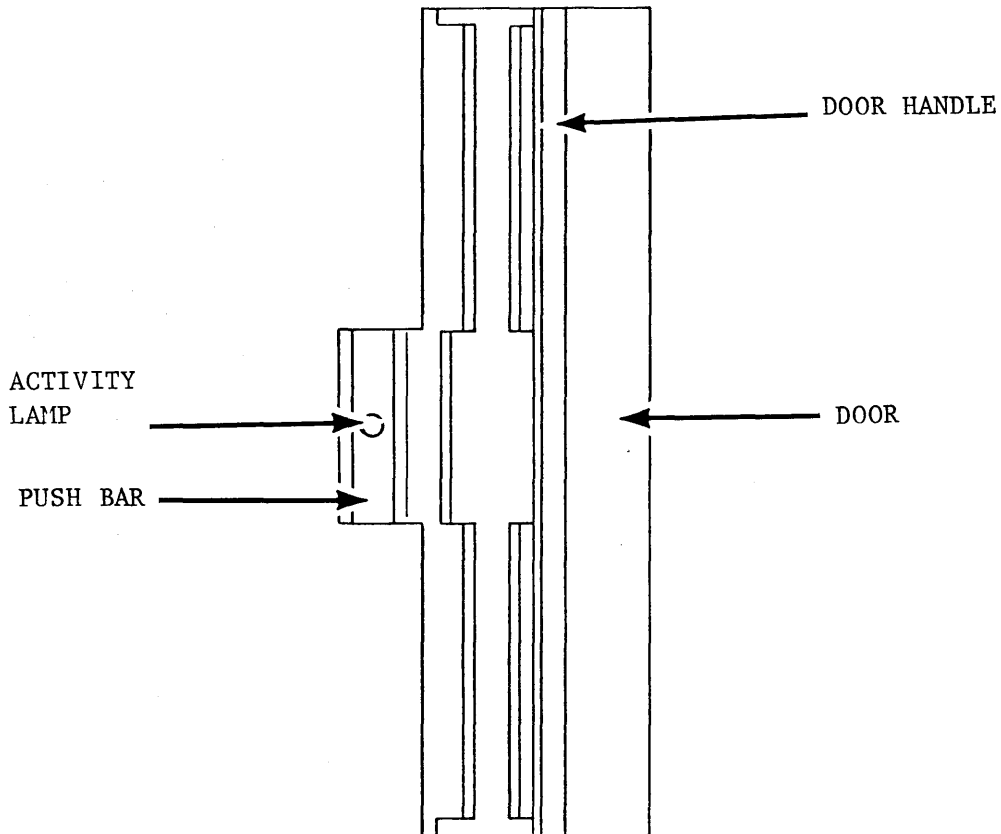

Figure 1-8. Floppy Disk Door
- c. Open and close the diskette access doors on the disk unit a couple of times to assure smooth operation. Depressing the vertical push bar, located to the left of each door, releases a catch causing the door to pop open, sliding to the right. The door is closed by firmly sliding it to the left until it locks shut. See Figure 1-8, Floppy Disk Door.